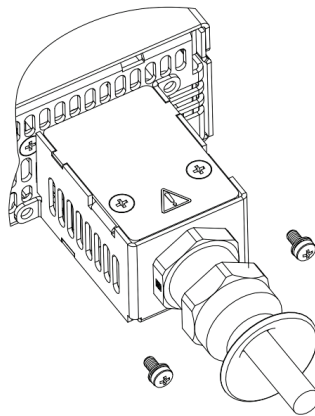

Figure 4-21: Strain Relief Assembled to Power Supply Rear Panel
9. Fix the strain relief release assembly to the rear panel with two M3x8 Sems screws as shown in Figure 4-21. The Sems screws are supplied in the accessories kit. Tightening torque: 4.7-5.7 Lbf-inch. (0.53-0.64Nm).